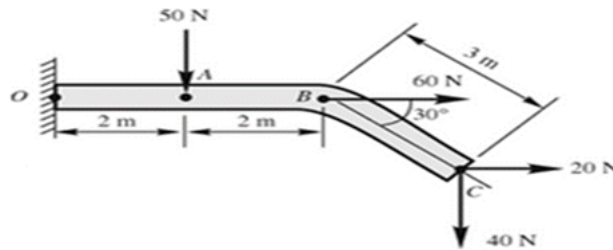

Figure 1
- (b) Determine the resultant of the four forces acting on the rod as shown in the Figure 1. [7M]